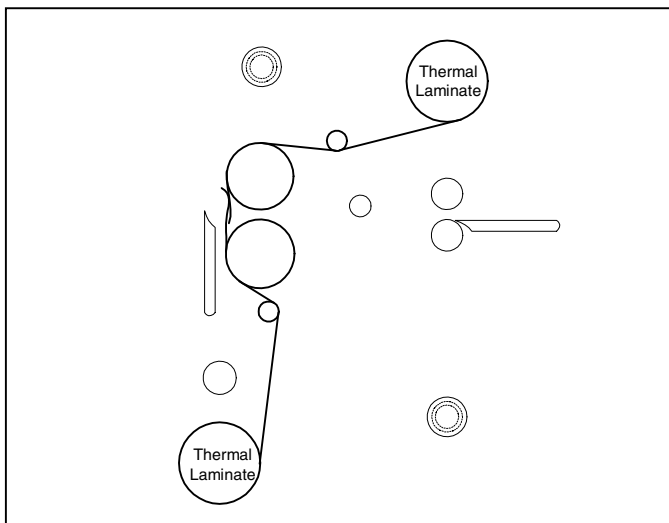

Fig. 23
6. Pull the lower film behind the lower idler bar and up towards the film draped over the top heat roller (Figure 23).